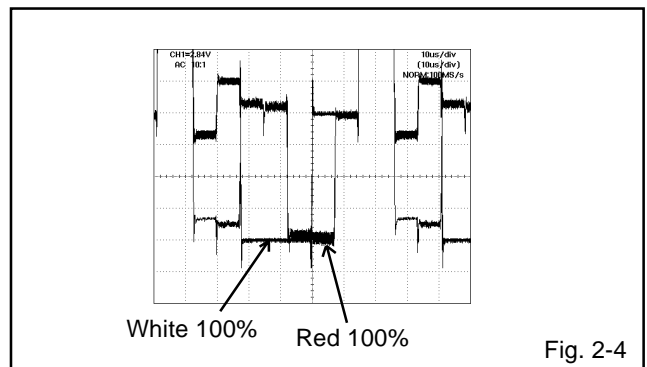

Fig. 2-4
16. Press the VOL. UP/DOWN button on the remote control until the red color level is adjusted to 100% \pm 10% of the white level. **(Refer to Fig. 2-4)**